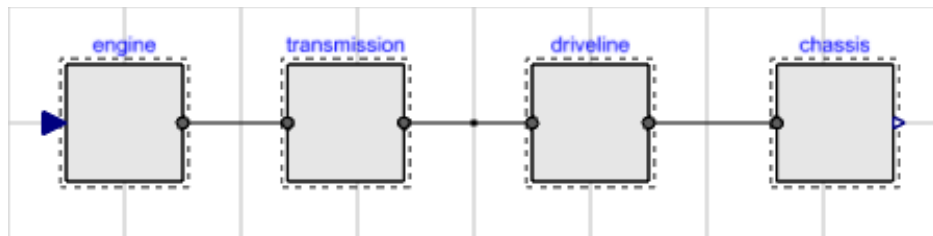

Figure 2 StandardCar Template
2. Drag an *Interfaces.Engine* component into the model, and repeat for the other subsystems and make sure to call them **engine**, **transmission**, **driveline**, and **chassis**. Make sure that the naming of your subsystems is right, these names are not so easy to change later, and align them in that order (see Figure 2).
3. Connect them. Now you should have a model looking like the Figure 2.